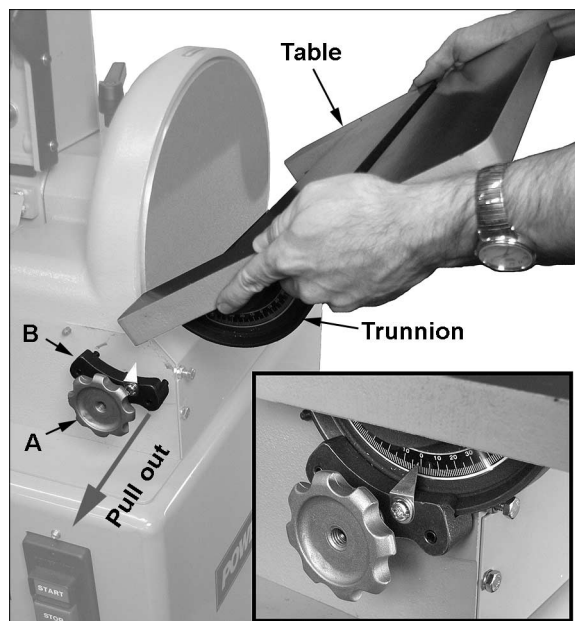

Figure 9
Refer to Figure 9:
1. On both sides of the sander body, loosen the *locking wheels* (A), and pull the *trunnion holders* (B) out far enough to allow clearance between trunnion holders and sander body.
2. Install the table by sliding the table trunnions into the slots of the trunnion holders. See Figure 9 inset. Be careful not to damage the angle pointer on the left trunnion holder.
3. Slide the *trunnion holders* (B) back in, and re-tighten the *locking wheels* (A).